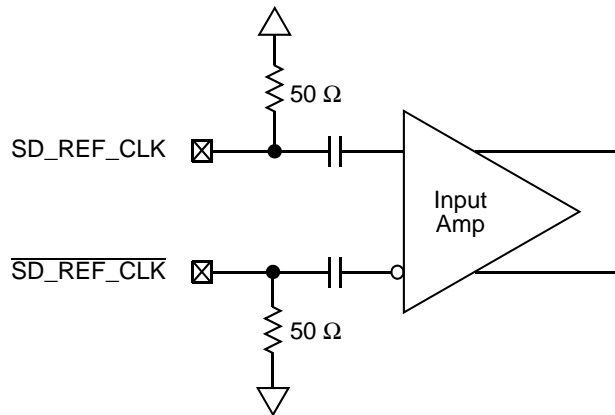

Figure 39. Receiver of SerDes Reference Clocks
- The SD_REF_CLK and $\overline{\text{SD_REF_CLK}}$ are internally AC-coupled differential inputs as shown in Figure 39. Each differential clock input (SD_REF_CLK or $\overline{\text{SD_REF_CLK}}$) has a 50- Ω termination to SCOREGND followed by on-chip AC-coupling.